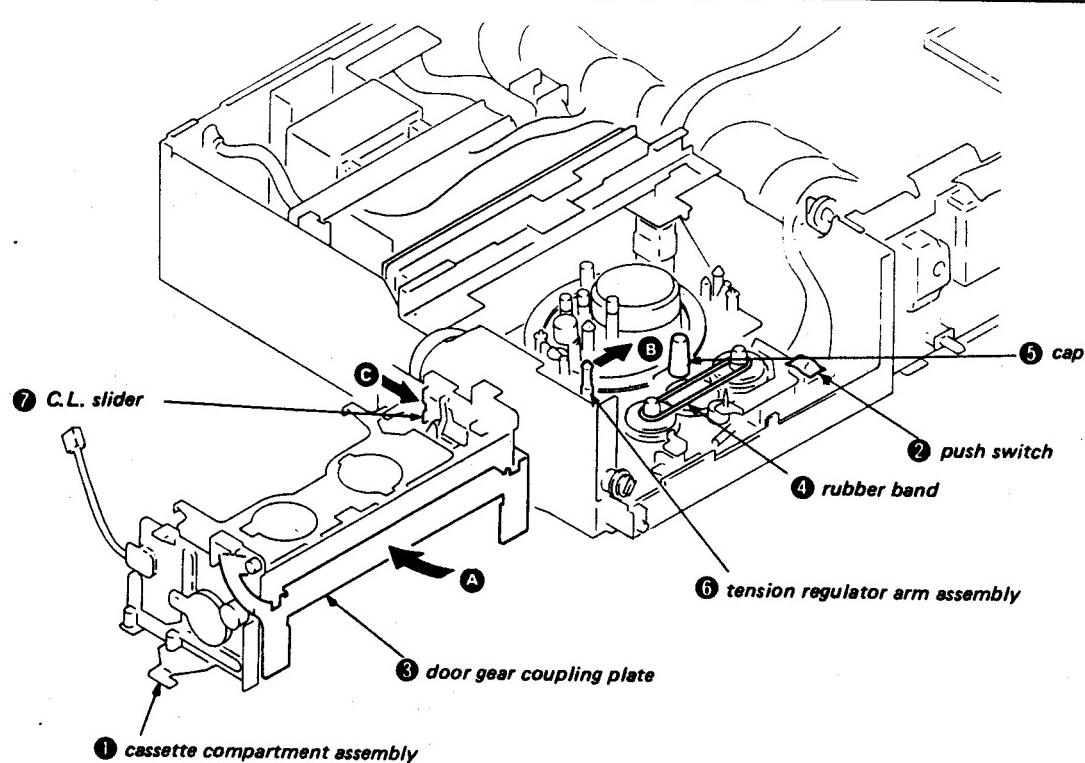

Fig. 1-1.
- 1) Remove the front panel and covers (upper, lower) according to item 1-1.
- 6) Place tape over the pin coming out of the push switch ②.
- 8) Press door gear coupling plate ③ in the direction of arrow A. (Refer to Fig. 1-1)
- 2) Place the rubber band ④ as shown between S reel and T reel sides.
- 3) Place a cap ⑤ over the LED assembly.
- 4) Press the playback button, and when the T reel side starts to rotate, press the tension regulator arm assembly ⑥ in the direction of arrow B. (At this time, the tension regulator band is released and the S reel side rotates.)
- 5) Press the stop button to stop. (Fig. 1-1)
- 2) Place a rubber band ④ as shown between the S reel and T reels.
- 4) Press the recording button, and when the T reel side starts to rotate, push the tension regulator arm assembly ⑥ in the direction of arrow B. (At this time, the tension regulator band is released and the S reel side rotates.)
- 5) Press the stop button to stop (Fig. 1-1)
- 1) Press the EJECT button. (Press the C.L. slider ⑦ in the direction of arrow C when opening the door gear coupling plate ③.) (Fig. 1-1)